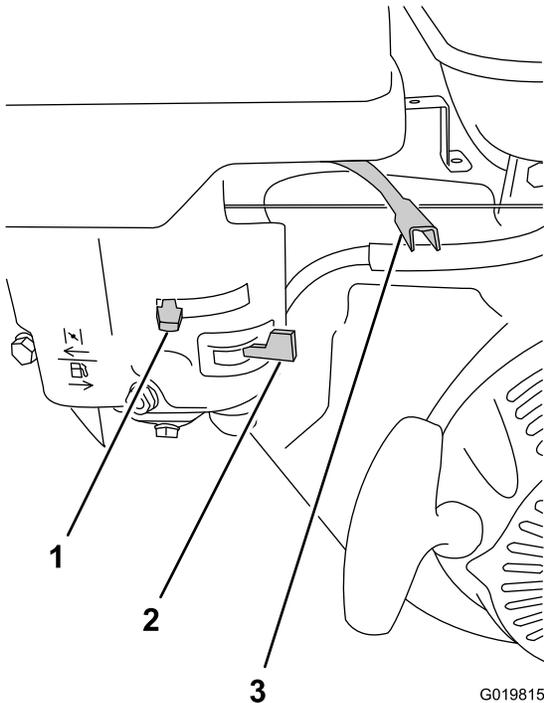

Figure 33
1. On the engine, move the throttle lever away from the MIN position, 1/3 of the way toward the MAX position (Figure 33).
2. Move the lever of the fuel valve to the ON position, all the way to the right (Figure 33).
- To start a cold engine, move the choke lever to the CLOSED position, all the way to the left (Figure 33).
4. Rotate the engine switch to the ON position (Figure 33).
1. Ensure that the choke lever is in the OFF position (Figure 33).
2. Move the throttle lever to the MIN position (Figure 33).